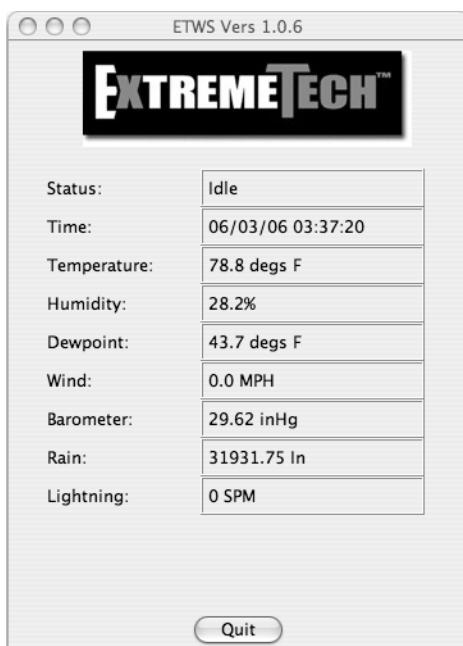

FIGURE B-7: The ETWS main window.
22. Once the preferences window is closed, the main status window will begin to collect and display the current weather measurements based on the sensors you have. You'll see something similar to Figure B-7.